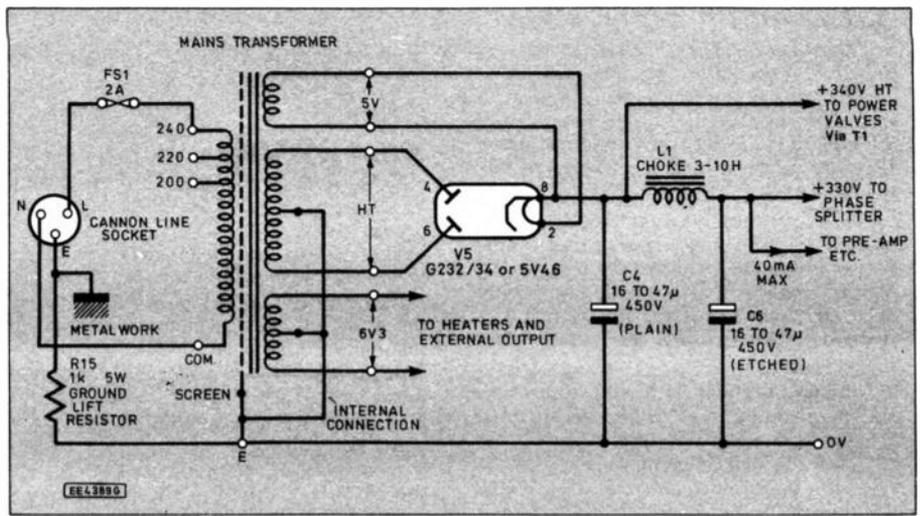

Fig. 7. Circuit diagram for the valve Power Supply. Note that the "ground-lift" resistor R15 is a 5W wirewound type.
The power supply is a typical 1950s design, using a pi-network inductor-capacitor filter and full-wave valve rectifier as illustrated in Fig.7. It is a good idea to retain the valve rectifier because it applies the HT gradually to the circuit as it warms up; reducing stresses to the capacitors and providing maximum valve life (because valves do not like HT applied before the cathodes have warmed up). If solid-state rectifiers were to be employed it would be essential to provide a standby (HT) switch or slow turn-on circuit.